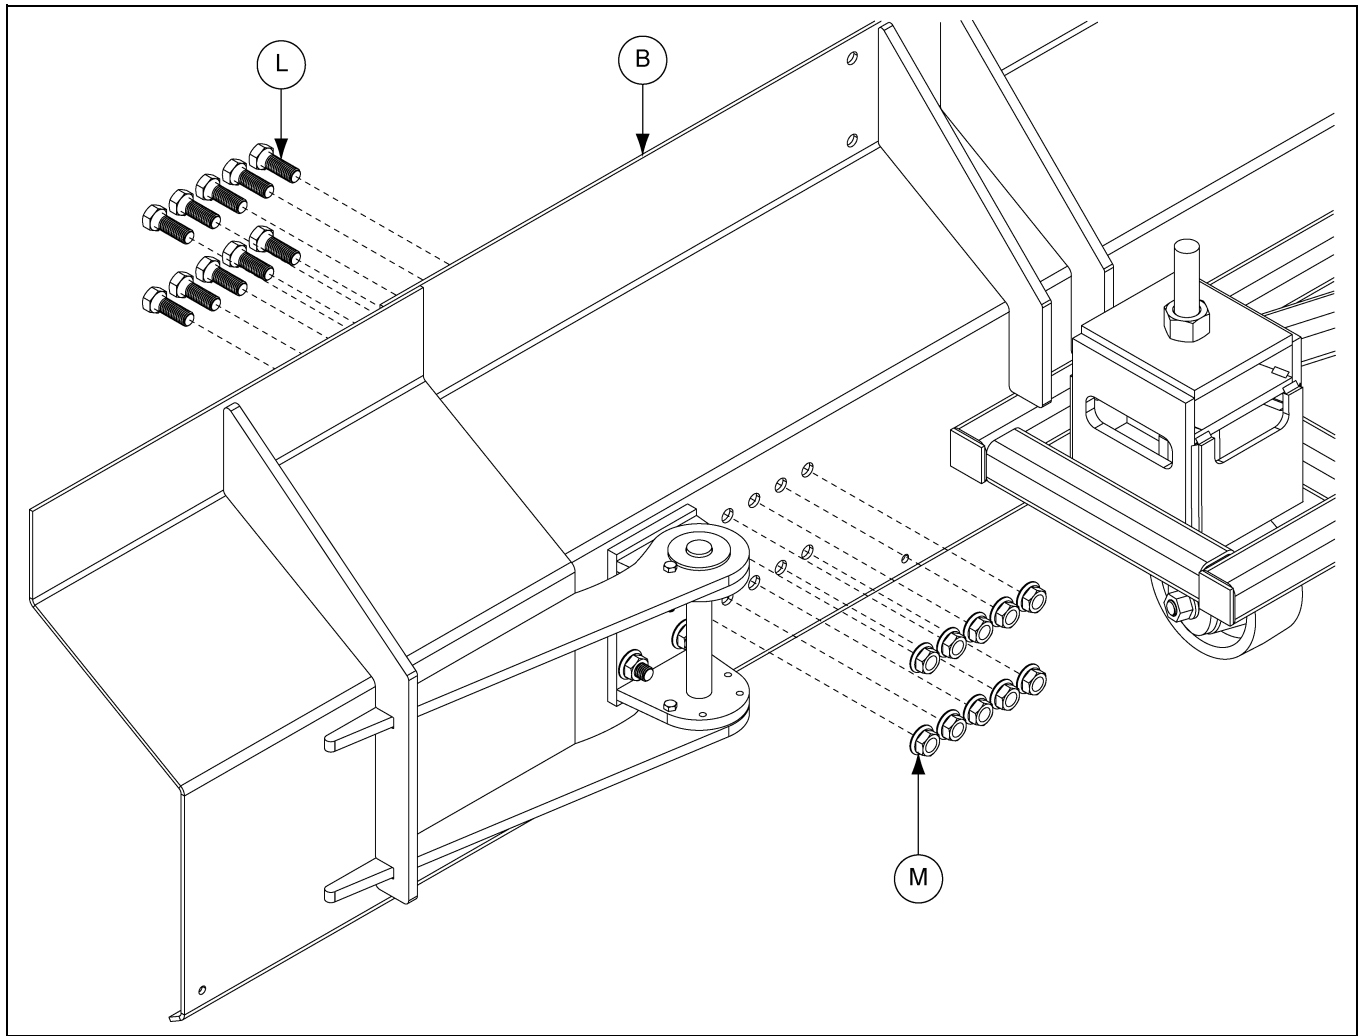

Figure 4P
3. Install hex bolts (L) and flange nuts (M) to sweep shield (B), to fill in all of the remaining bolt holes. (See Figure 4P.)
NOTE: Hex bolts (A) must be installed from auger side of sweep shield as shown. (See Figure 4P.)